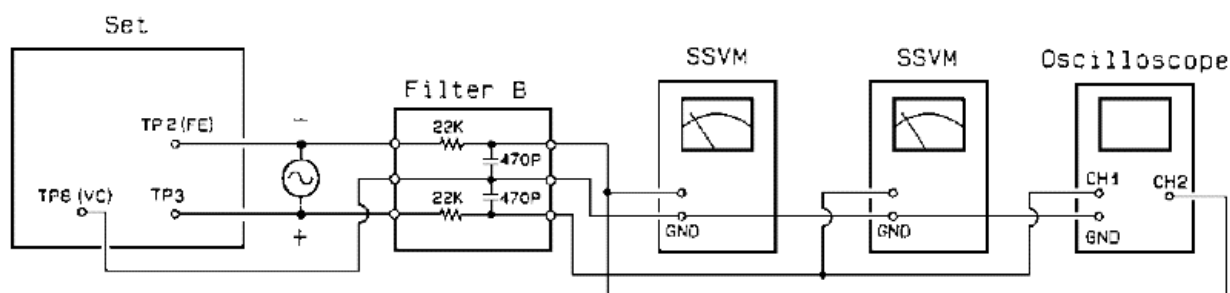

FIGURE 30-49 Connect the scope and test instruments through filter B at TP2 and TP3 for tracking-gain adjustment.
- 1 Connect the scope to TP2 (FE), TP3, and TP8 (VC) through filter B. Note that TP8 must be connected to ground on the oscilloscope (Fig. 30-49).